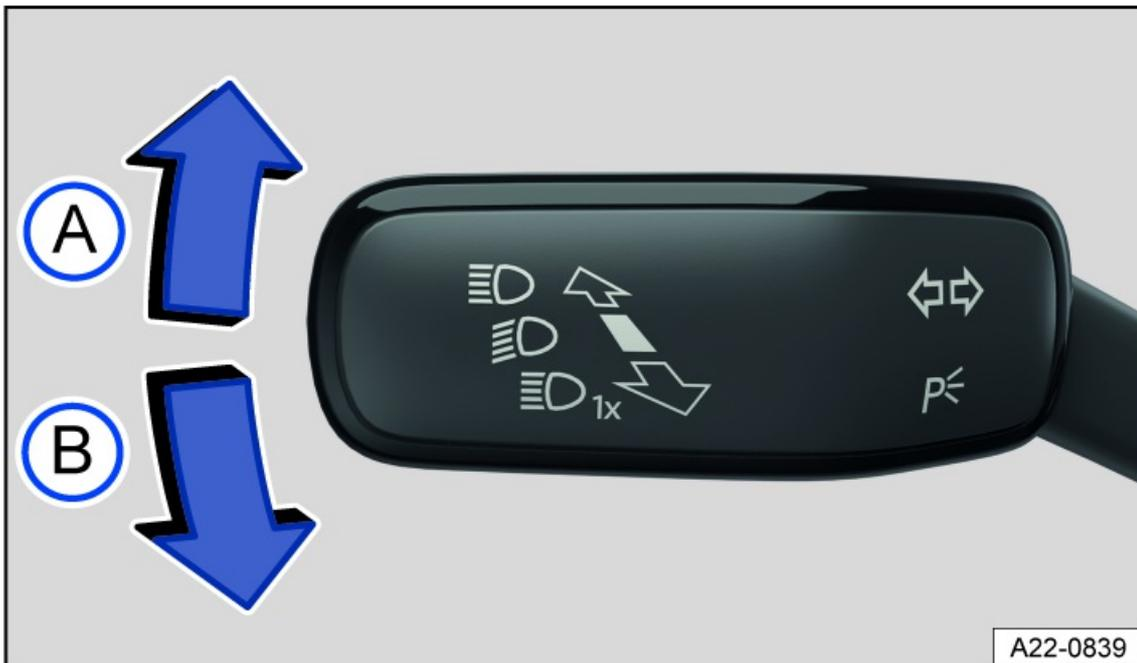

Fig. 76 On the left side of the steering column: turn signal and high beam lever.
2. Move the lever out of the center position into the desired position *fig. 76*.